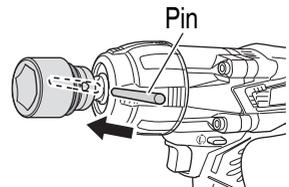

Fig. 2
- (2) Pass the pin through the holes. (**Fig. 2**)